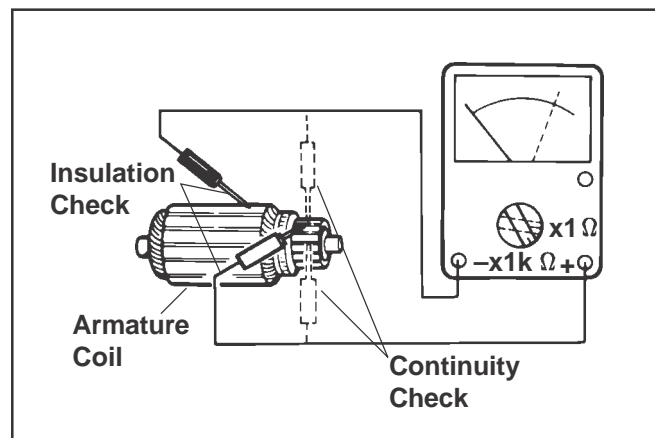

Figure 8-47. Armature Checking.
- Use an ohmmeter set to the Rx1 scale. Touch the probes between two different segments of the commutator, and check for continuity. See Figure 8-47. Test all the segments. Continuity **must** exist between all or the armature is defective.
- Check for continuity between the armature coil segments and the commutator segments. See Figure 8-47. There should be no continuity. If continuity exists between any two, the armature is defective.
- Check armature windings/insulation for shorting. See Figure 8-47.